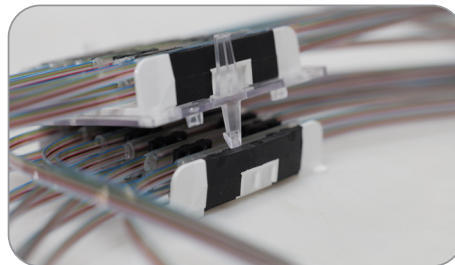

Figure 12
11. Prior to installing the modules on top of layer one, install the double stack adapter to the bottom of the layer two splice modules (**Figure 12**).
14. Any exposed layer one splice modules must have a double stack adapter attached on top (**Figure 12**).